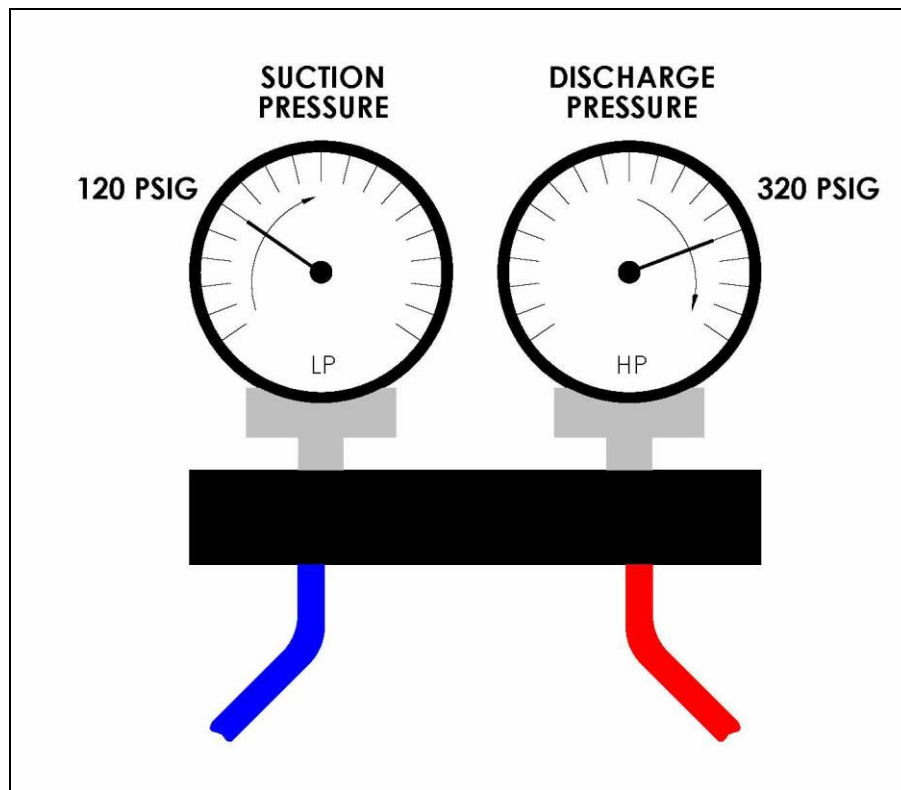

Figure 32. Minimum Suction and Discharge Pressures
3. As shown in Figure 32, when the **compressor discharge pressure reaches 320 psig (HP gage) and the suction pressure reaches 120 psig (LP gage) the CAV is closed.**